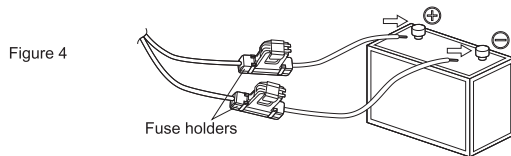

Figure 4
4. Confirm the correct polarity of the connections, then attach the power cable to the battery terminals; red connects to the positive (+) terminal and black connects to the negative (-) terminal. Use the full length of the supplied cable without cutting off excess even if the cable is longer than required. In particular, never remove the fuse holders from the cable. (Figure 4)